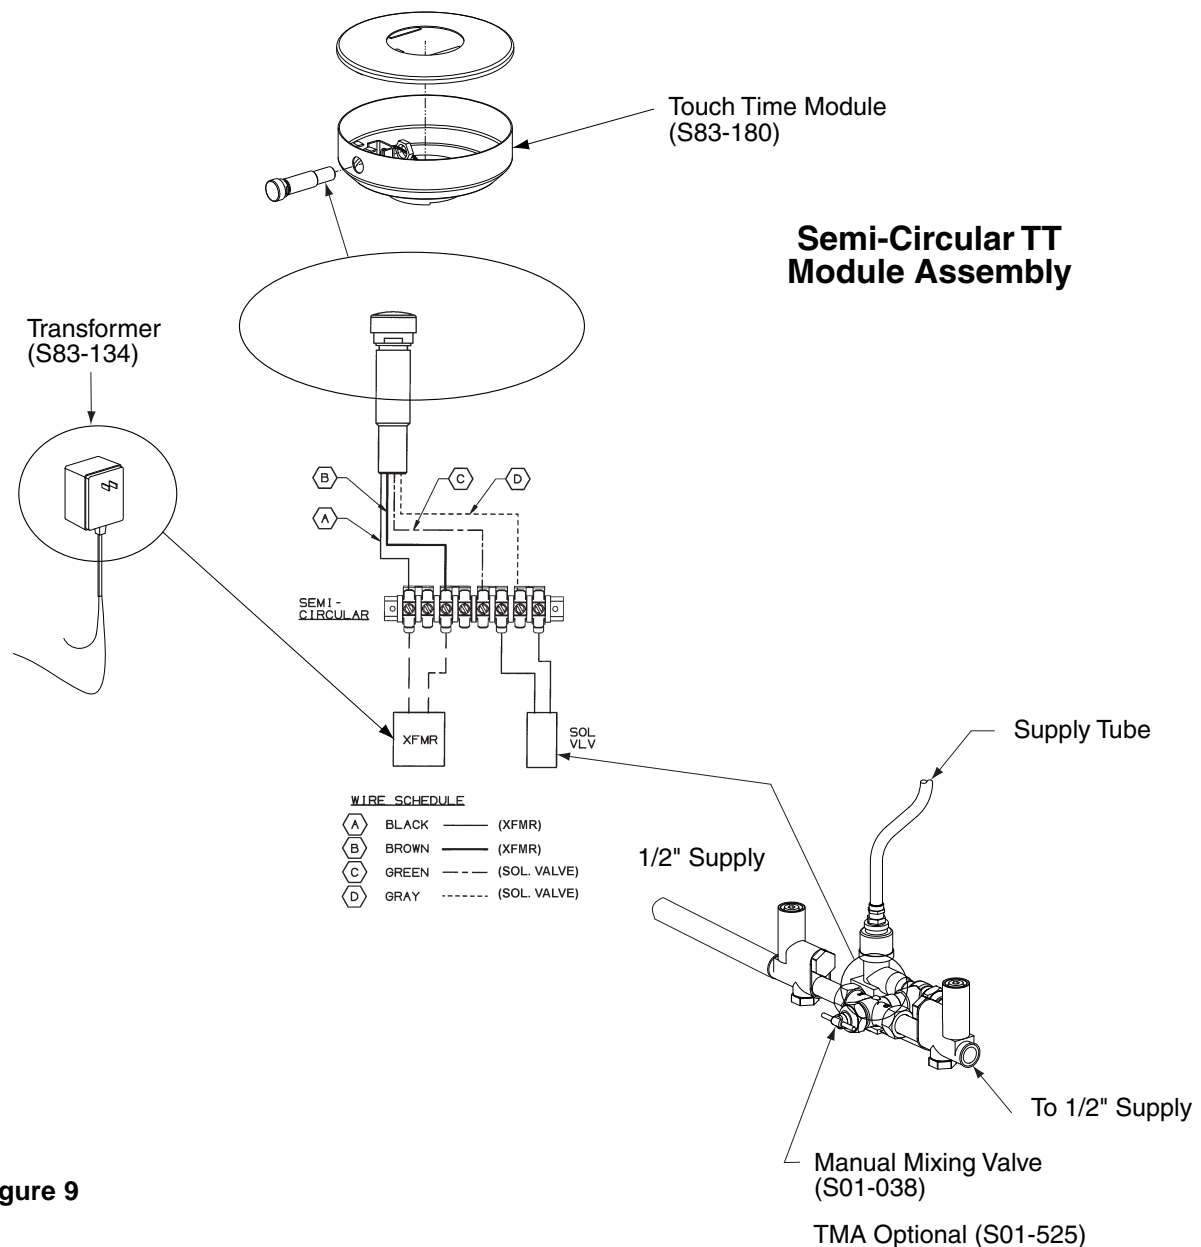

Figure 9
5. Connect the four wires from the Touch Time switch in the Touch Time module assembly to the terminal block as shown in Figure 9 on Page 17.
4. Connect the four wires from the Touch Time switch in the Touch Time module assembly to the terminal block as shown in Figure 9 on Page 17.
2. Connect the two transformer wires, and the two wires from the solenoid valve to the terminal block. (The four wires from the Touch Time switch were previously connected in Step 4). See Figure 9.
- c. Connect the volt meter leads from the transformer as shown in Figure 9 on page 17.
4. Test the solenoid valve following the procedure outlined below (see Figure 9 on page 17):